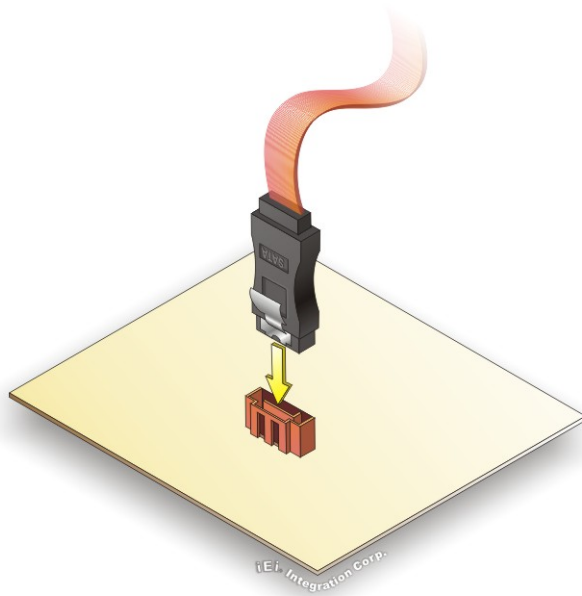

Figure 4-19: SATA Drive Cable Connection
Step 2: Insert the cable connector. Insert the cable connector into the on-board SATA drive connector until it clips into place. See **Figure 4-19**.